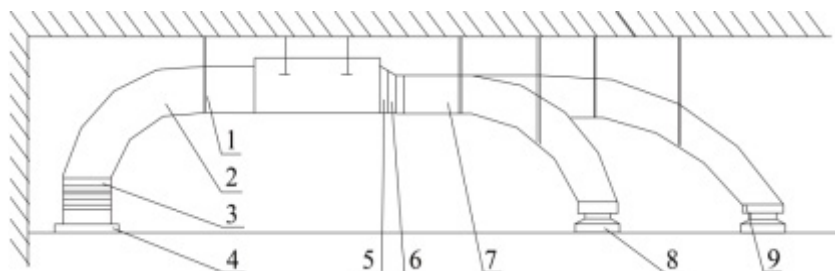

Figure 8: Arrangement for Round Air Supply Ducting
- Figure 8 shows the correct arrangement for rectangular air supply ducting. Table 3 indicates the parts required. Duct work should be installed in accordance with relevant standards and codes.